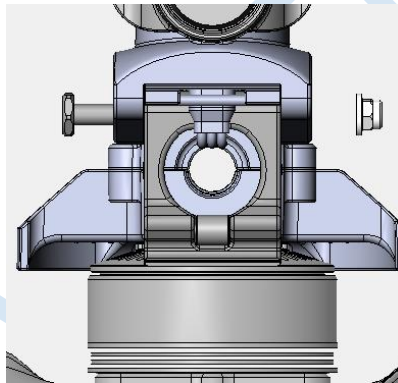

Figure 4
4) Install the M5\*57.2 plug screw from the hexagon side of the 6mm hole on body's arm joint, and tighten the M5 nut on the other side to lock the plug screw as figure 4